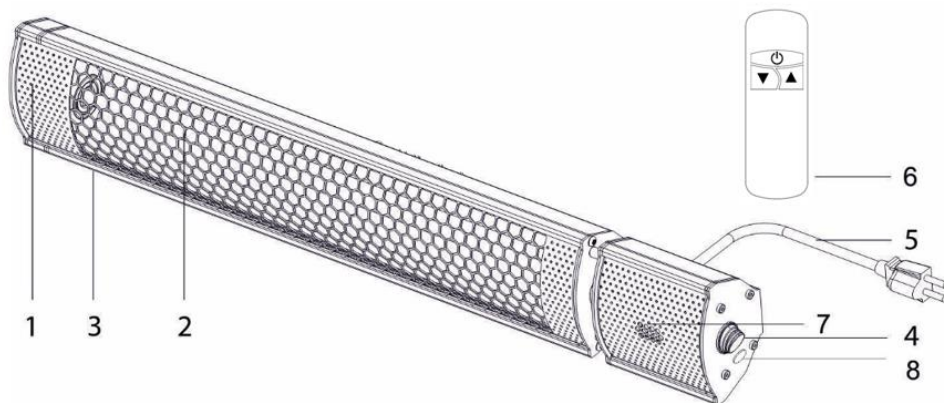

Figure 1
The remote control shall be used within a distance of 5 m from the heater and directed at the signal receiver on the appliance (see Fig. 1, item 7)